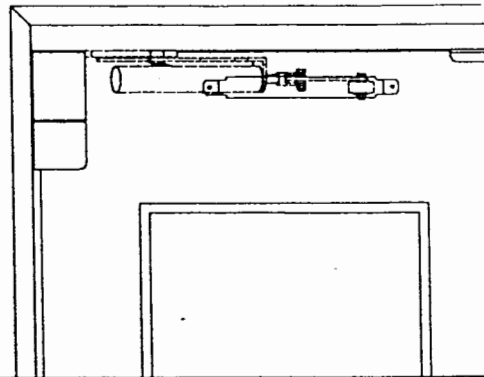

Fig. 4
**Step 6.** Install track assembly using hardware provided in mounting kit, P/N B8111. See Fig. 4 & 5 for details and dimensions.
**Step 6.** Install track assembly using hardware provided in mounting kit, P/N DD-8510. See Fig. 4 for details and dimensions.